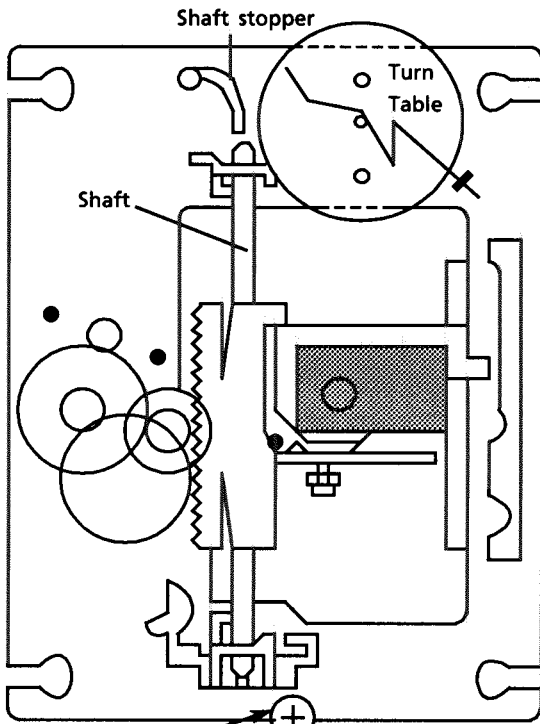

Fig 10 CD mechanism assembly
2. Release the shaft to remove the pickup. (Fig 10)